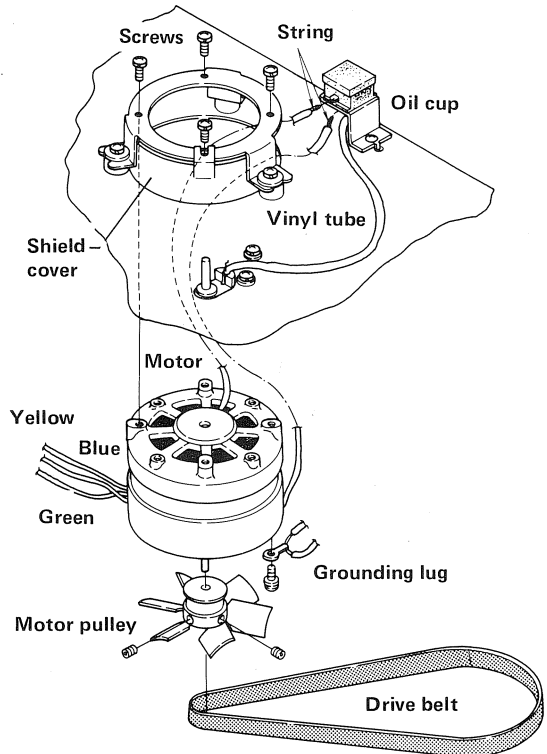

Fig. 14
1. Take off the drive belt (Fig. 14).